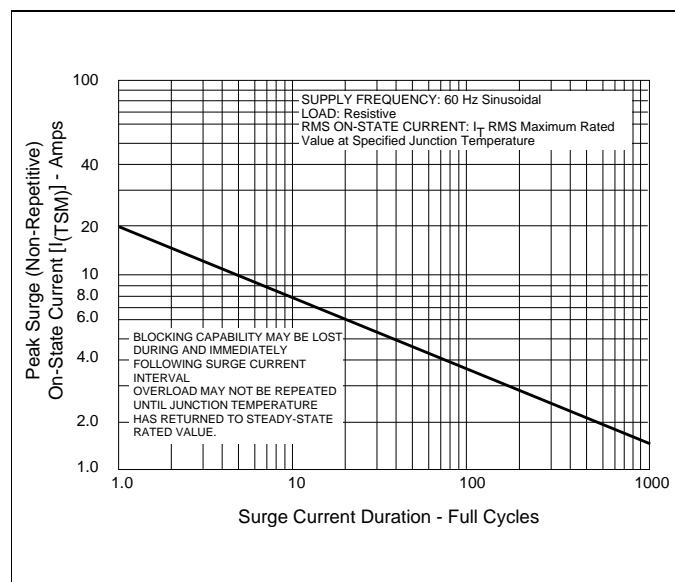
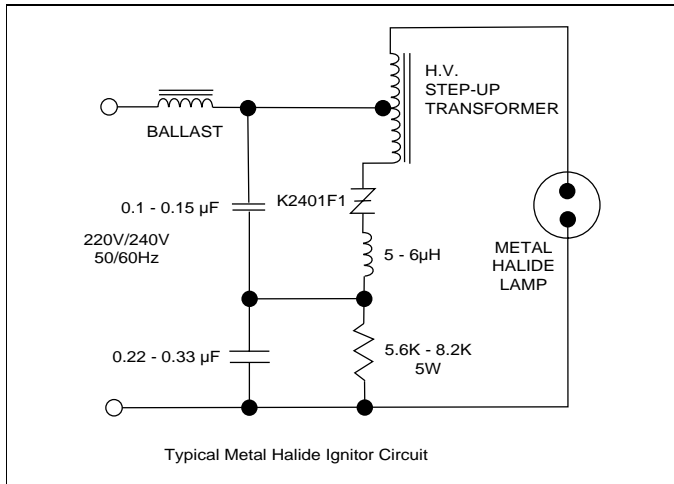
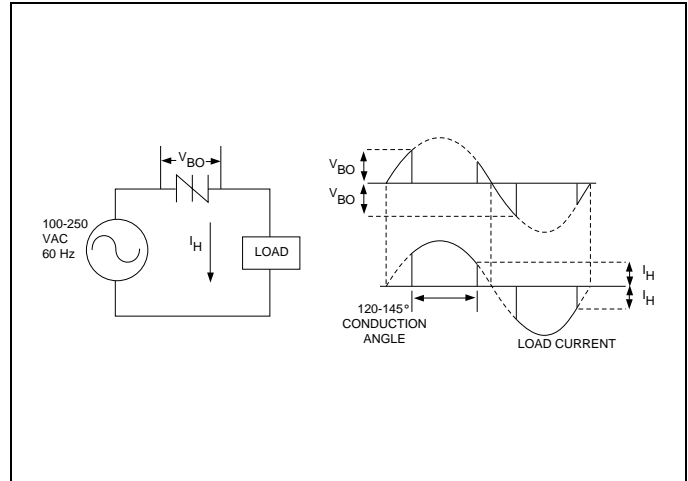

Figure 9.1 Peak Surge Current vs Surge Current Duration
Figure 9.3 Typical Metal Halide Ignitor Circuit
Figure 9.15 Basic Sidac Circuit
- (5) See Figure 9.1 for more than one full cycle rating.
- (6) $R_{\theta JA}$ for TO-202 Type 23 and Type 41 is $70^\circ\text{C}/\text{watt}$.
- (7) $T_C \leq 90^\circ\text{C}$ for TO-92 Sidac and $T_C \leq 105^\circ\text{C}$ for TO-202 Sidacs. $T_L \leq 100^\circ\text{C}$ for DO-15X and $T_L \leq 90^\circ\text{C}$ for DO-214AA.
- (8) See Figure 9.15 for clarification of Sidac operation.
- (9) For best Sidac operation, the load impedance should be near or less than switching resistance.
- (10) Teccor's new, improved series of sidacs is designed to ensure good commutation at higher switching frequencies as required in ignitor circuits for high intensity discharge (HID) lighting. A typical circuit for a metal halide lamp ignitor is shown in the schematic, Figure 9.3. With proper component selection this circuit will produce three pulses for ignition of Osram lamp types such as HQI-T70W, HQI-T150W, and HQI-T250W which require a minimum of three pulses at 4kV magnitude and $>1\mu\text{s}$ duration each at a minimum repetition rate of 3.3kHz.